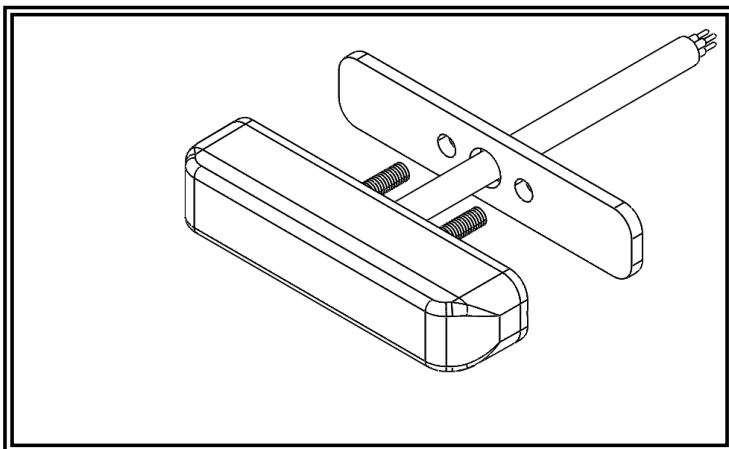

Figure 6
Step 3. Run the cable of the light head through the short gasket. Feed the cable through the center drilled hole in the mounting surface. Mount the assembly to the surface using the two M4 flange locknuts (not shown). Tighten to 10 in-lbs max torque. See Figure 6.